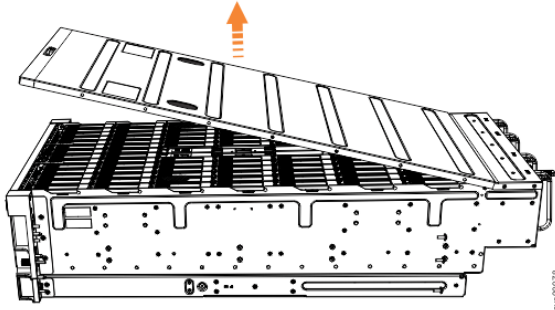

Figure 128. Removing the 5U expansion enclosure cover
4. Carefully lift the cover up, as shown in Figure 128 on page 177.